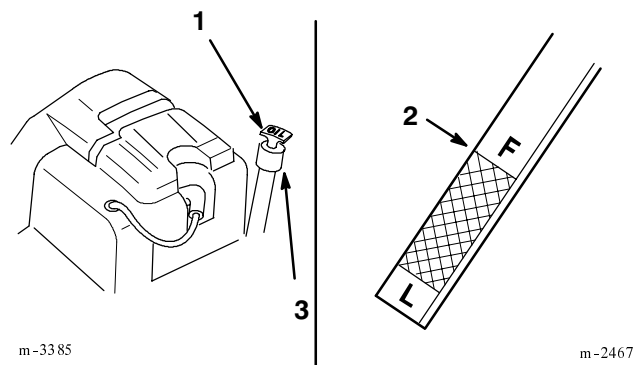

Figure 20
3. Clean around the oil dipstick (Fig. 20) so dirt cannot fall into the filler hole and damage the engine.
4. Pull the oil dipstick out and wipe the metal end clean (Fig. 20).
5. Push the oil dipstick fully into the filler tube (Fig. 20). Pull the dipstick out and look at the metal end. If oil level is low, slowly pour only enough oil into the filler tube to raise the level to the "FULL" mark.
6. Slowly pour approximately 80% of the specified amount of oil into the filler tube (Fig. 20). Now check the oil level; refer to Checking Oil Level, page 22. Slowly add additional oil to bring to "FULL" mark on dipstick.